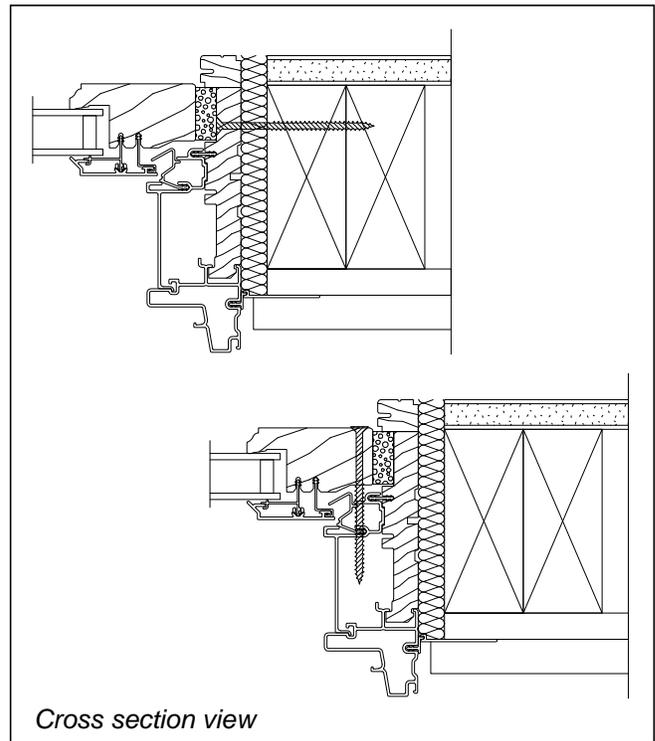

Figure 7
- Sash shipped separate or sash removed:** Fasten frame to the rough opening using #8 X 3" screws driven perpendicular to the frame, 6" (152) from corners and a maximum of 13" (330) on center from there. *The screw will go through foam weather stripping.* See figure 7.